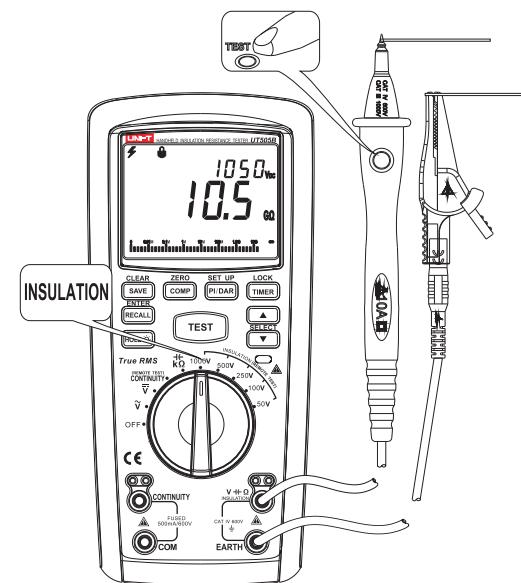

Figure 9
5. Measuring of Insulation Resistance (See Figure 9)
- ① Insert the red probe into "V" jack (red jack), and black one into "EARTH" jack (black jack).
- ② Rotate dial switch to INSUATION (area of insulation resistance) and select the tested voltage required. Connect the probe to the tested circuit in parallel.
- ③ Press "TEST" on instrument or "TEST" on remote-control probe and read current resistance on main display area on display. In auxiliary display area, tested voltage or current (press "▼" to select) can be seen, while display will flicker and show the warning symbol of high voltage "⚡".
- ④ Press the key of "TEST" and LCD will flicker and show the warning symbol of high voltage "⚡" in case of high-voltage output. In addition, red warning indicator beside warning symbol of shell will be on.
- ⑤ In measuring, if intending to save measuring value, press the key of "SAVE" for saving.
6. Polarization Index or Insulation Absorption Ratio (See Figure 9)